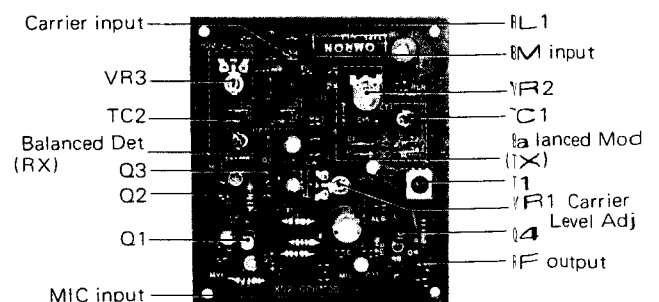

Fig. 10
9. Carrier balance (Refer to Fig. 10)